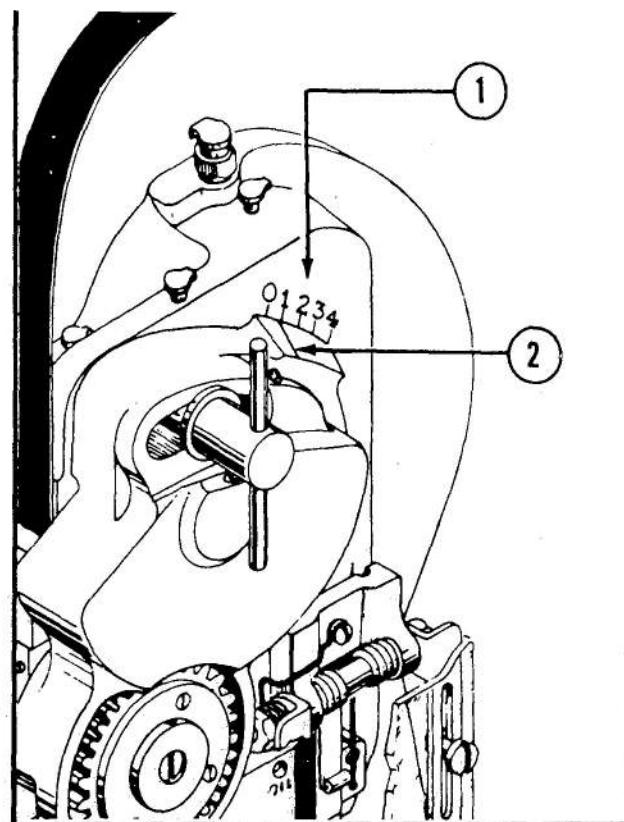

Figure 10—Wire Draw Scale
The standard wire draw heads are equipped with a length of wire draw scale, (1) Fig. 10, on the head plate, and an alignment marker (2) on the wire feed guard. The scale and marker provide a means of setting the wire draw according to the desired length. On the standard draw head the "O" marking represents 1" (25.4mm) of wire draw. Each of the other graduations in the scale on both heads represent approximately 1/8" (3.2mm) additional wire draw. Thus, if the head being operated is a standard wire draw head, a setting on the "3" (76.2mm) marking will result in a wire draw of 1-3/8" (34.9mm).